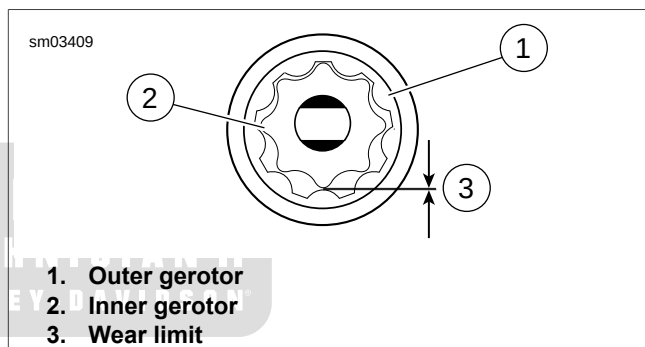

Figure 3-136. Gerotor Wear Limits
2. See Figure 3-136. Inspect both gerotor sets for wear.